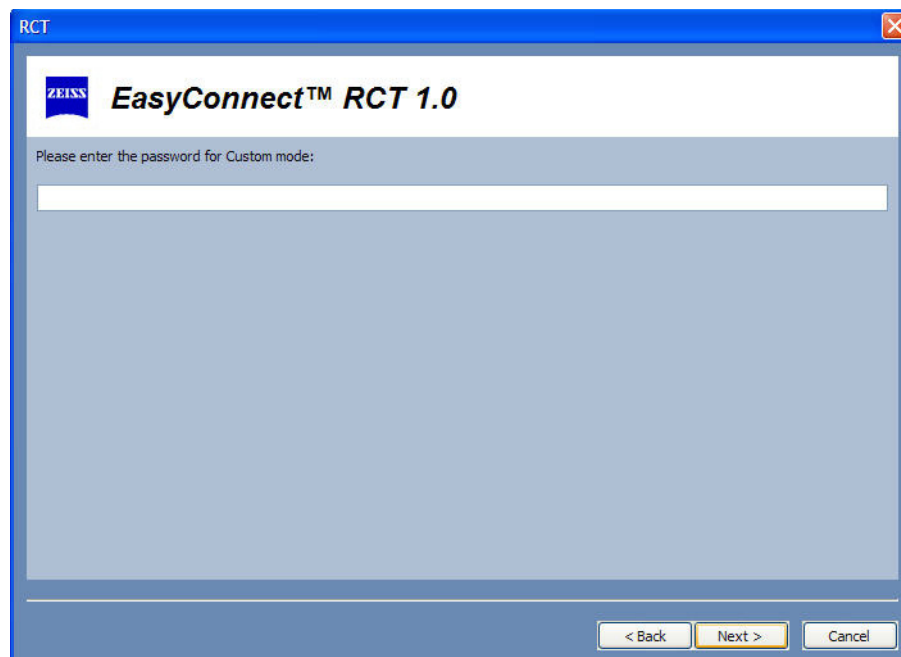

Figure G.24 Enter Custom Mode Password
- 2 The RCT will prompt for a Custom mode password before beginning the Custom configuration process (Figure G.24). Enter "November171846" for the password and then select NEXT to continue. This login is included to provide a security barrier to the more advanced Custom configuration mode.